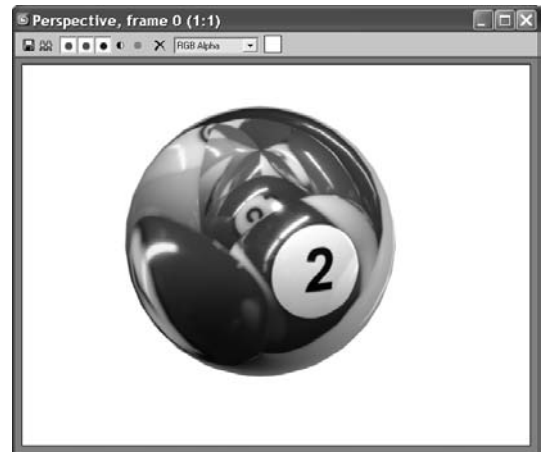

Figure 7.30
4. You need to adjust how much reflection is on the ball. Click the Go to Parent button, and go to the Maps rollout. The type-in area next to the names lets you specify the amount of map applied to the material. Change the value next to Reflections from 100 to 10. Test render the pool ball again. You should notice a much nicer level of reflection (Figure 7.30). Voilà!